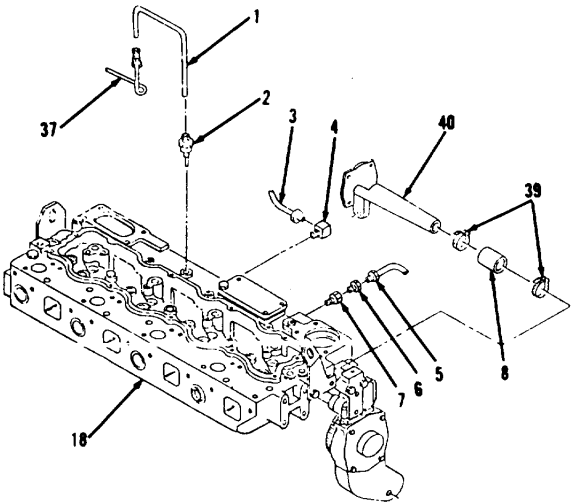
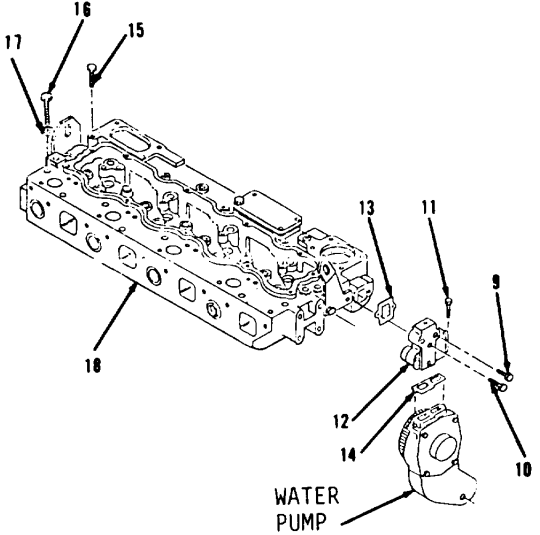

Figure 3-35.
Figure 3-36.
1. Remove tube (1) from tube assembly (37) and atomizer (2, Figure 3-35) on top, left side of engine.
2. Remove atomizer (2) from cylinder head (18).
3. Disconnect tube assembly (3).
4. Remove elbow (4).
5. Disconnect tube assembly (5).
6. Remove connector (6) and bushing (7).
7. Loosen two clamps (39) on left side of engine.
8. Remove hose (8) by sliding back off pipe (40).
9. Remove bolts (9 and 10) and two bolts (11, Figure 3-36) from front, left side of engine.
10. Separate elbow (12) from cylinder head (18) and water pump.
12. Remove five bolts (15), 14 bolts (16) and washers (17) from top of cylinder head (18).